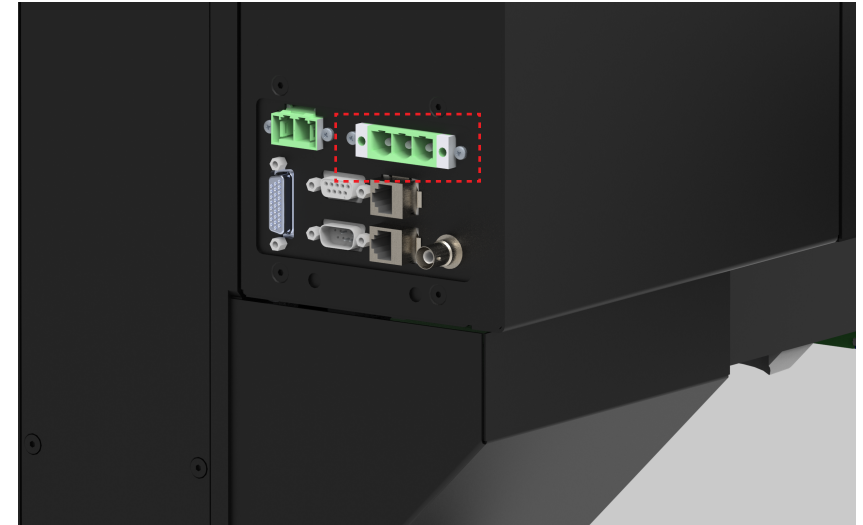

Figure 1: Line Cord Connector
2. Plug and screw in the line cord at the back of the power supply (see Figure 1)